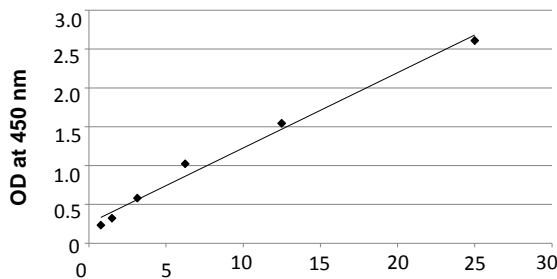
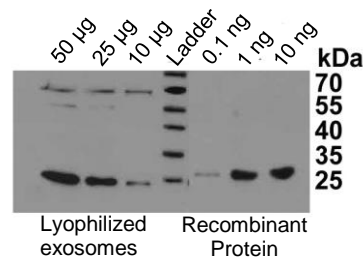

Figure 4. CD9 titration of plasma healthy donor exosome standards.
Figure 5. CD9 marker detection by Western Blotting on lyophilized exosomes from human plasma and the recombinant CD9 protein.
- 10. Sensitivity:** The sensitivity of the ExoQuant™ was compared to Western blot. The data reported in Figure 4 and 5 demonstrate that the sensitivity of the ExoQuant™ is higher than that of Western blotting. Figure 5 shows that 10 µg of lyophilized exosomes is equivalent to 0.1 ng of recombinant exosomal protein (CD9). Since the standard curve's lower concentration is 0.39 µg of lyophilized exosomes (Figure 4), the sensitivity of our test is around 39 pg of protein equivalent.